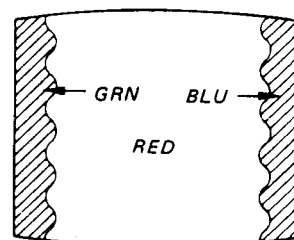

Fig. 3-2.
5. Adjust purity control to center vertical red band as shown in Fig. 3-2.